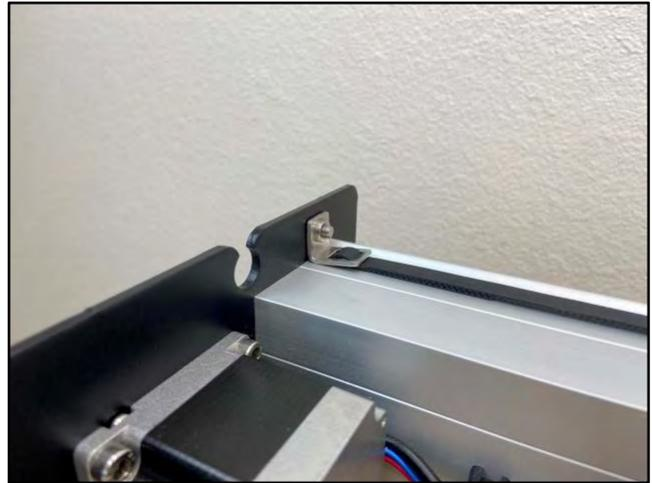

Figure 30
1. Install and tension the X-Axis belt. See **Fig. 30**